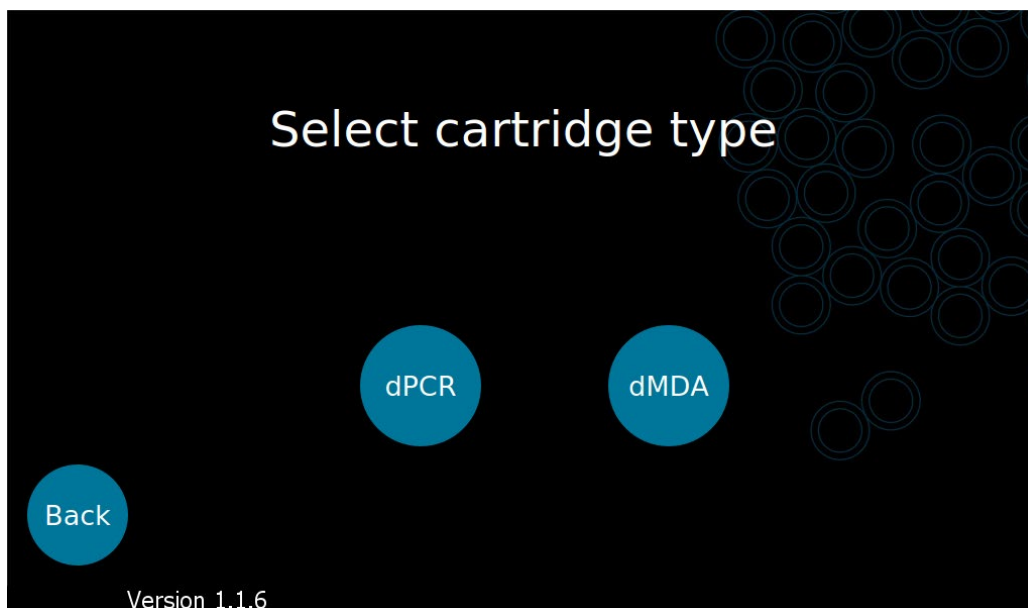

Fig. 3.6. The Xdrop™ instrument “Select cartridge type” screen, select dPCR cartridge.
14. The Xdrop™ instrument can operate with either dPCR or dMDA cartridges. Use the dPCR cartridge option by selecting “dPCR” on the touch screen (Fig. 3.6.).